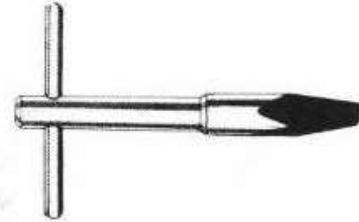

Figure 58
- (1) Disable all power to the engine to prevent propeller rotation and engine start. Disconnect ignition leads from all spark plugs.
- (2) If not already done, remove the Heli-Coil® insert from the spark plug hole as follows:
- (a) Insert the T-shaped Removing Tool P/N 64595 (Figure 58) in the spark plug hole. Press the tool down firmly for the edge of the tool to cut into the top thread of the insert.